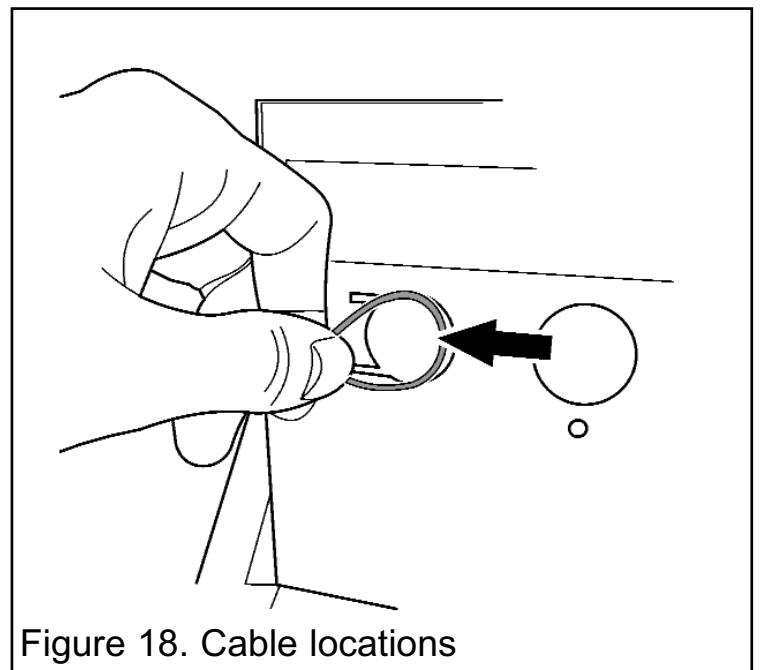

Figure 18. Cable locations
8. The convection box has two slots at each side of the flue outlet. Loop one end of each cable and pass the loop into the slots (See figure 18). Give the cables a pull so that they grip.